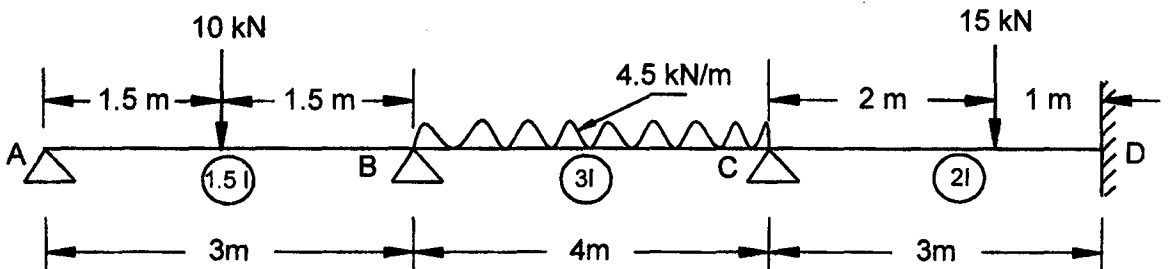

Fig. Q.1
Q.1 Draw bending moment and shear force diagram for the beam shown in Fig. Q.1. use moment distribution method.